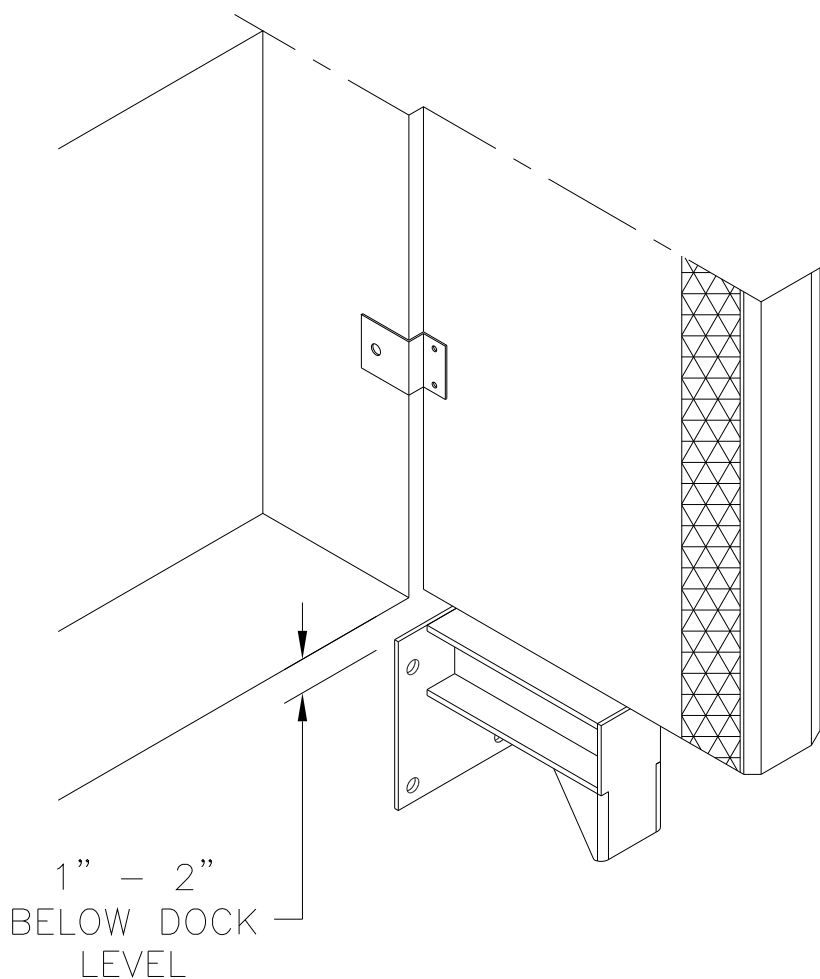

FIGURE 26
2. Position bumpers so that they are centered with the side frames, and located 1" - 2" below dock level. (See Figure 26)
3. Fasten the bumpers to the building's foundation wall using a minimum of (4), 1/2" fasteners per bumper.